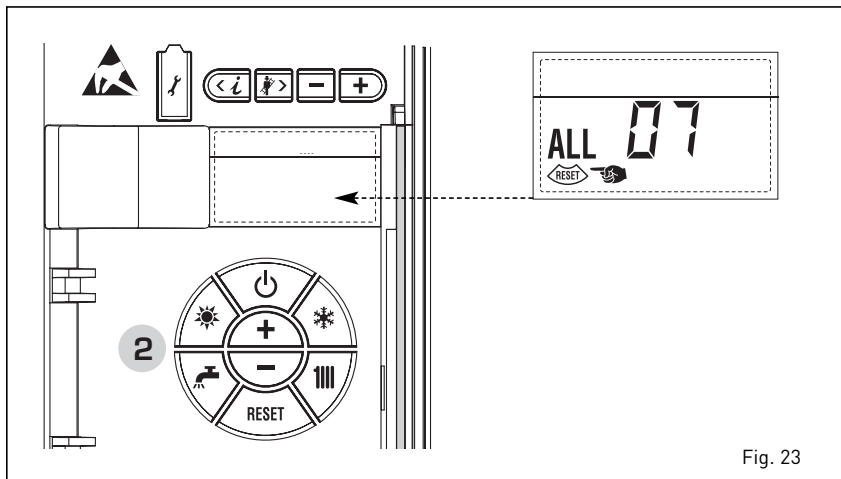

Fig. 23
- **SAFETY THERMOSTAT ALARM 07 (fig. 23)**